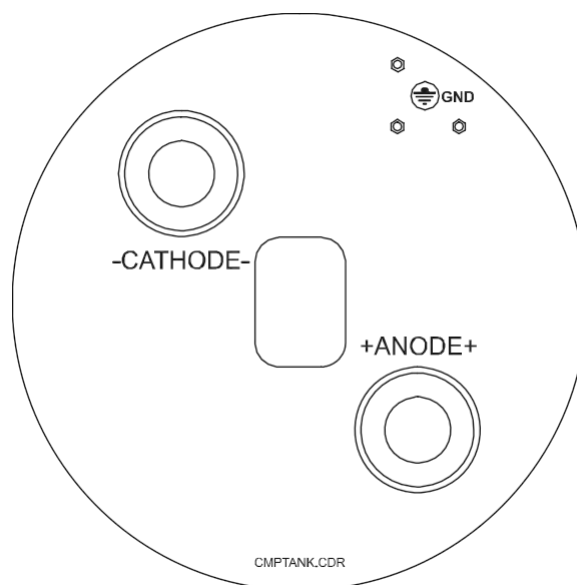

Figure 1-3 HV connector identification
3. Connect the anode and cathode cables to the HT tank. Ensure that the cables are plugged into the proper connectors on the HT tank. Refer to figure 1-3.